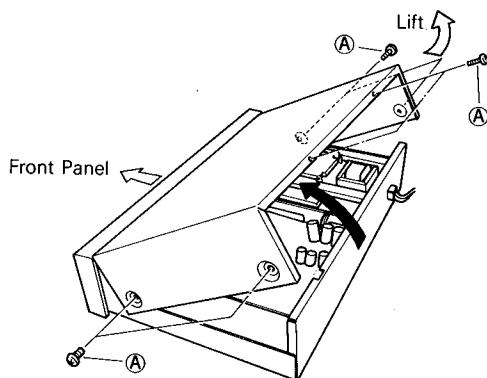

Fig. 1
1. Removal of Cabinet Top (Fig. 1)
Remove screws (A), then lift and remove the Cabinet Top and shown in Fig. 1.